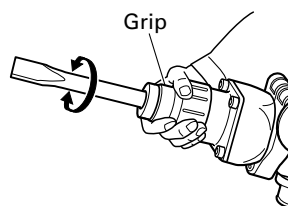

Fig. 9
- (c) Turn the grip as illustrated in Fig. 9 and fix the working position of the tool.